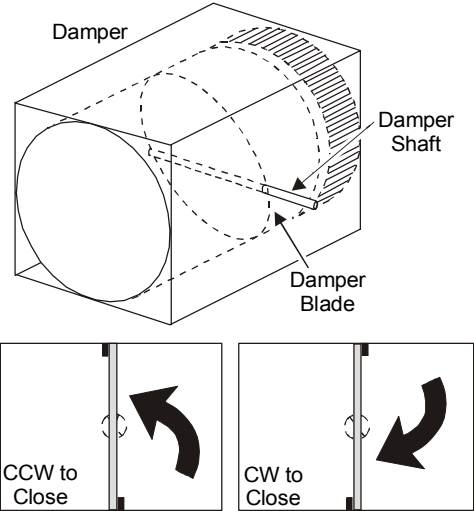

Figure 5: Damper Rotation
- Grasp the damper shaft firmly with pliers and rotate the damper fully closed. (See Figure 5.)